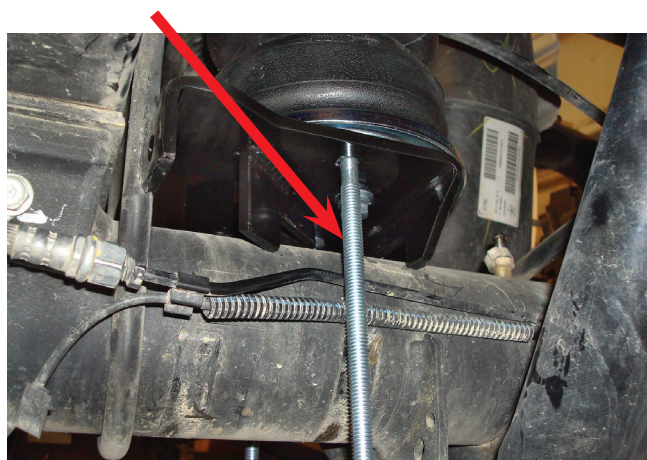

Fig. 14
3. For the late-model trucks that have the hard brake line and possibly an ABS harness that is behind and mounted flush to the axle (has no gap between the axle and brake line), set the driver's (left) side assembly into place, making sure the carriage bolt goes on the outside of the brake line (Fig. 14).